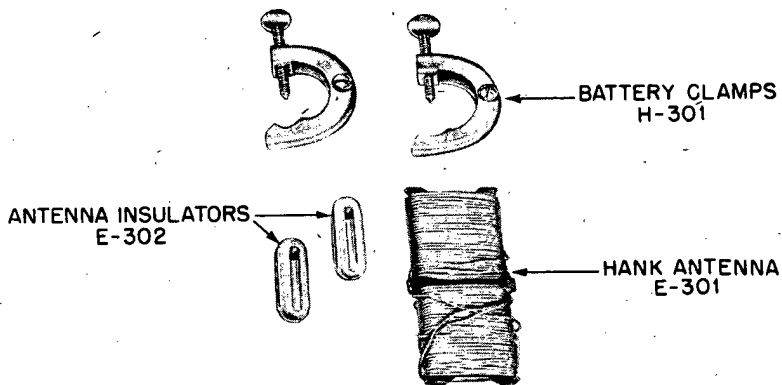

Figure 3. Additional accessories
a. The following accessories are contained in a plastic pouch (see Figure 3):